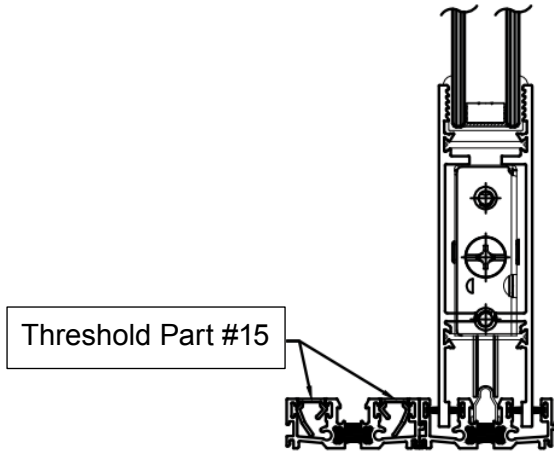
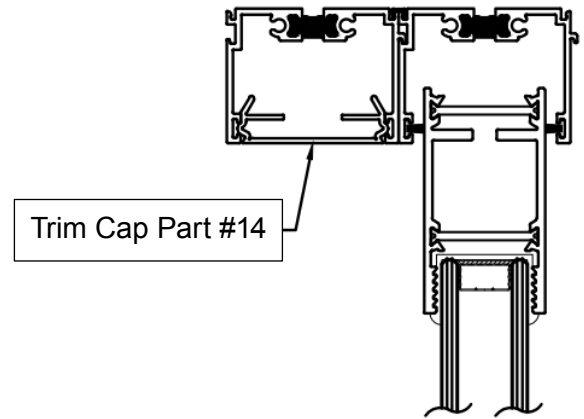

FIGURE 19A
FIGURE 19B
23. Install thresholds (Part #15) into the exterior sill track (Part #12) shown in figure 19a then install the trim cap that is the same length as the threshold into the exterior head track (Part #10) shown in figure 19b.